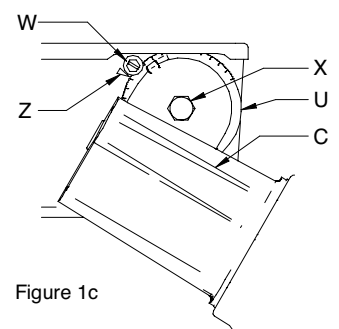
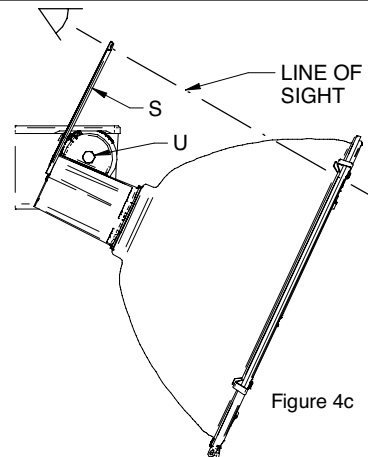

Figure 1c
Figure 4c
5. Aim the fixture by aligning the hole and the left edge of the latch with the desired aiming location. See Figure 4c.
6. Tighten the main mounting bolt (M) to 150 ft. lbs. and the socket housing retaining bolt (U) to 35-40 ft. lbs.
7. Rotate the aiming/repositioning stop bracket (X) BACKWARDS until the stop rest firmly against the tab on the socket housing and tighten the retaining screw (W). (See Figure 1c).
To position the fixture vertically: (See Figure 1c)